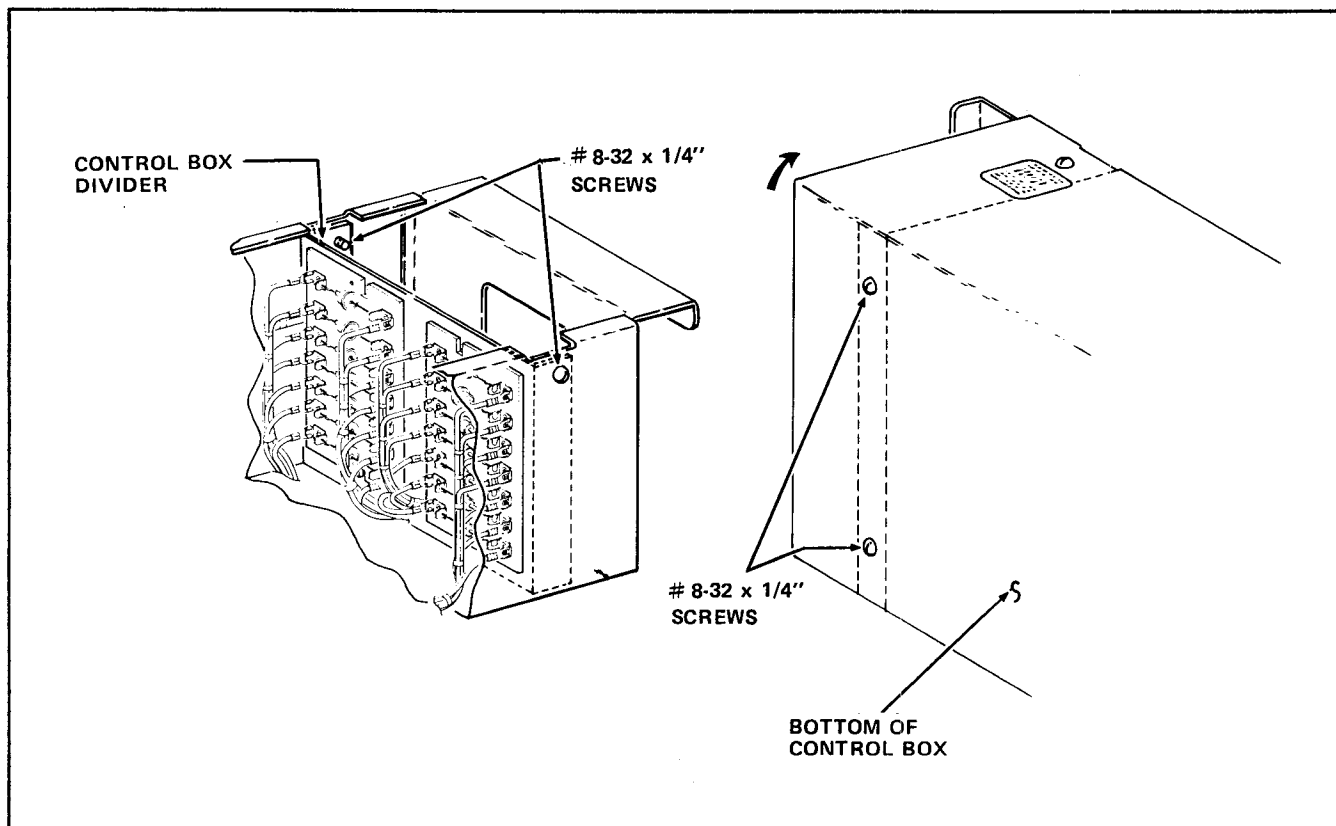

FIGURE 4
1. Remove the four No.8-32 x 1/4" Round head Self-tapping Screws which attach the Control Box Divider. See Figure 4.